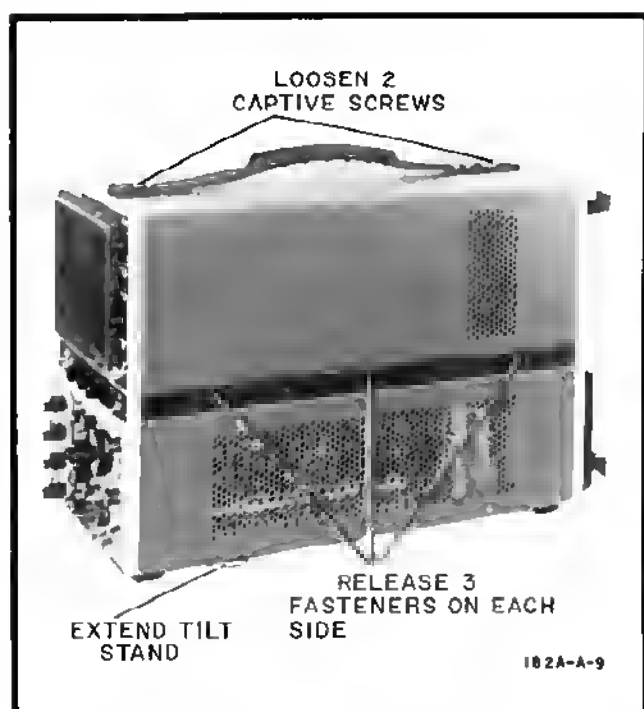

Figure 8-2. Cover Removal
- c. Release the 3 quarter-turn fasteners located on each side of the instrument. The cover retainers will be completely free. Figure 8-2 shows the location of the fasteners.